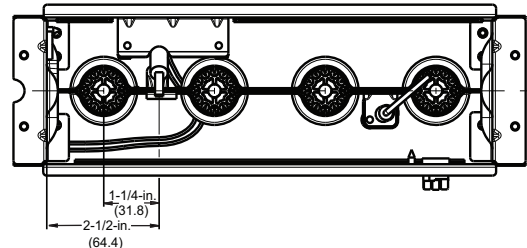
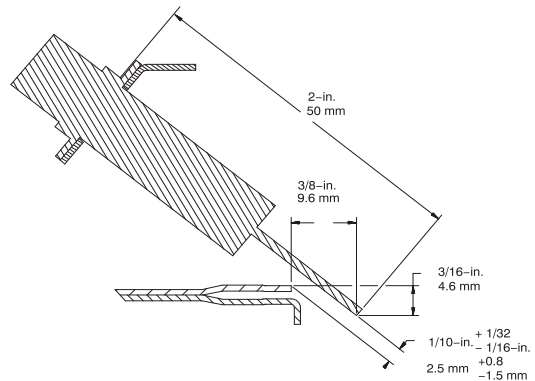

Fig. 6 – Igniter Position - Back View
Fig. 7 – Igniter Position - Side View
4. Verify igniter to burner alignment. See Fig. 6 & Fig. 7.